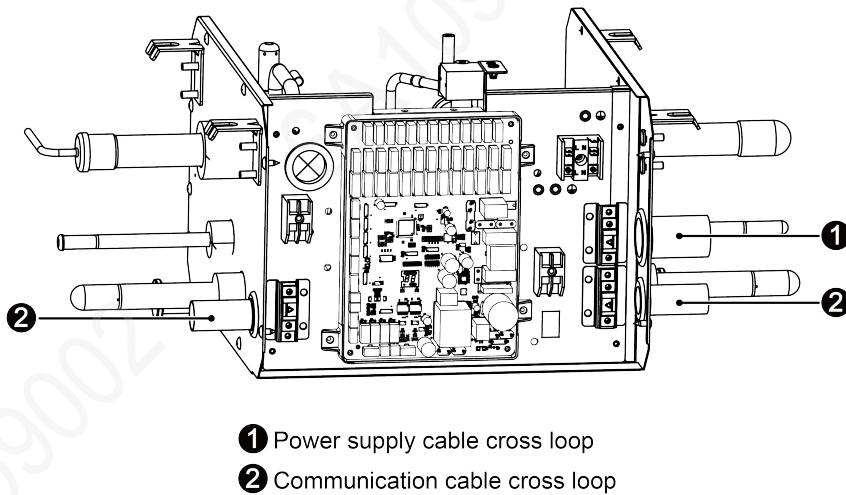

Fig.5.2.2
- 5) Take off the cable cross loop that is attached to the Mode Exchange Box, as shown in Fig.5.2.2~Fig.5.2.5. Replace with a local cable cross bushing.